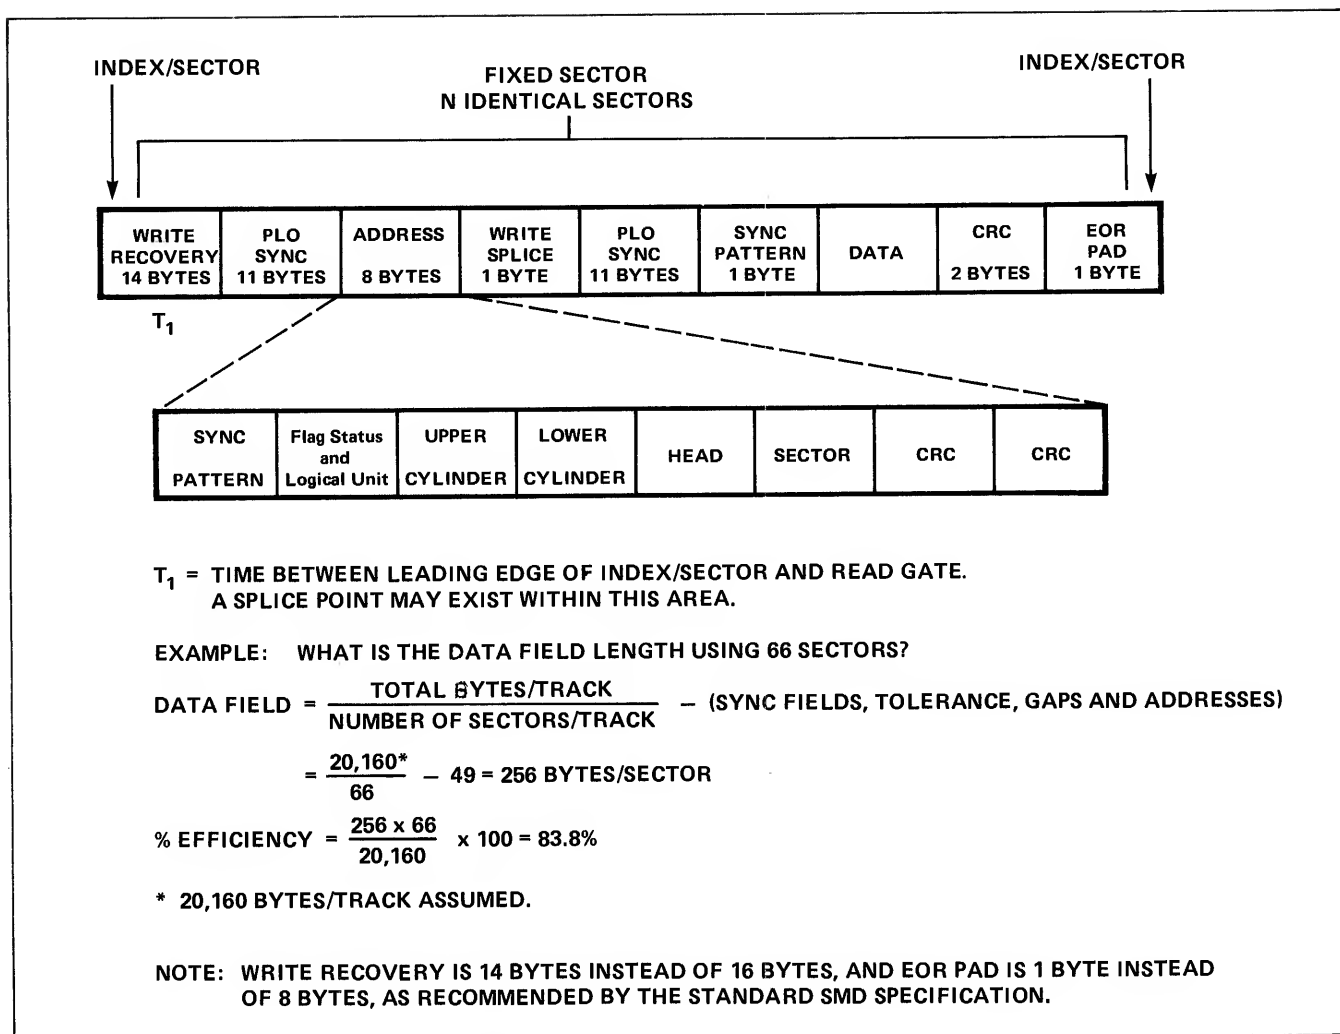

Figure 3-51. Recommended Sector Format
- d. **Beginning-of-Record Tolerance** This tolerance (a gap of 9 bytes) allows for write splice and write-to-read recovery time for multisector operations (see Figure 3-51).
3.20.7 Write Format Procedure. Provision must be made to format the disc. A suggested format is shown in Figure 3-51. The following procedure is recommended:
- h. Write a sync pattern, the data field, the two-byte data field checkword, and the five-byte field of zeros (see Figure 3-51). The data field should preferably be a worst case pattern.
Head switching and read amplifier stabilization requirements (Figure 3-45) determine the latest time at which a head can be selected, in order to read the next successive sector, using the format shown in Figure 3-51.